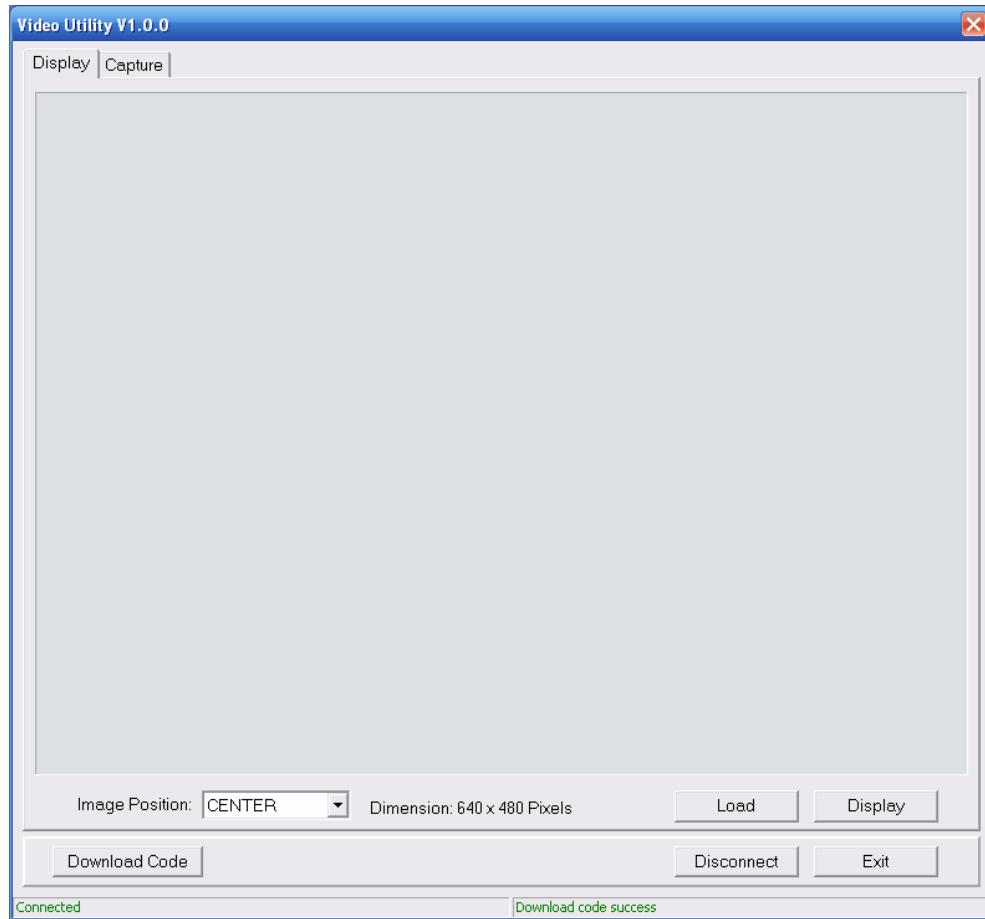

Figure 4.1. The DE2-70 Video Utility window.
4. Start the executable *DE2\_70\_VIDEO.exe* on the host computer. The Video Utility user interface shown in Figure 4.1 will appear.